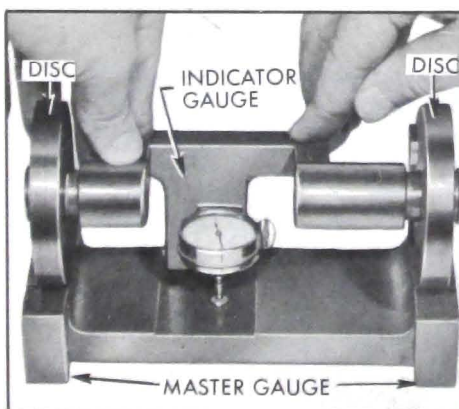

Figure 6-29—Zeroing Pinion Setting Gauge J-8619
Pinion Setting Gauge J-8619 consists of a master gauge and an indicator gauge upon which a dial indicator is mounted. The master gauge is used for zeroing the indicator gauge. See Figure 6-29.
2. Install the discs from the large rear axle pinion setting gauge set on the indicator gauge and install the small contact button on the stem of the dial indicator. Mount the dial indicator on the indicator gauge. See Figure 6-29.
5. Hold yoke down firmly, with both discs contacting the horizontal and vertical pads on master gauge, and set the dial indicator at zero. See Figure 6-29.